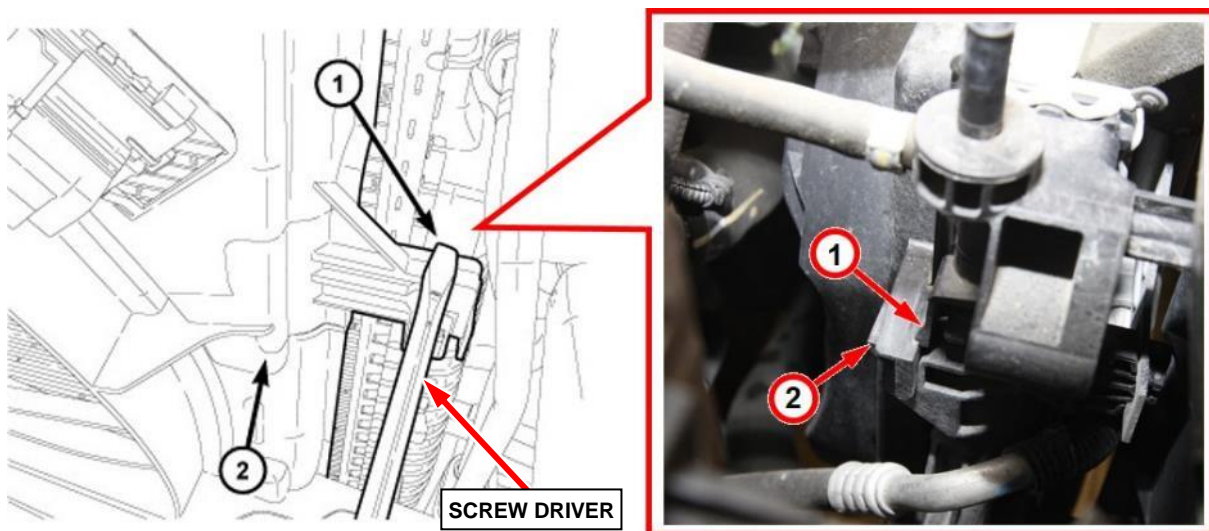

Figure 9 – Cooling Fan Module Mount Retaining Clip
12. From above or below as necessary for access, on each side of the cooling fan module, use a screwdriver or equivalent tool to depress the retaining clip (1) then lift upward to release the cooling fan module (2) from the mounts (Figure 9).
NOTE: The retaining clips (1) are only present on the upper right and upper left cooling fan module mounts. The lower right and lower left cooling fan module mounts do not have a retaining clips (Figure 9).
18. Position the cooling fan module (2) into the four mounting locations. Push the cooling fan module downward into the mounts and ensure to fully engage the two retaining clips (1) that are only present on the upper right side and upper left side cooling fan module mounts (Figure 9).